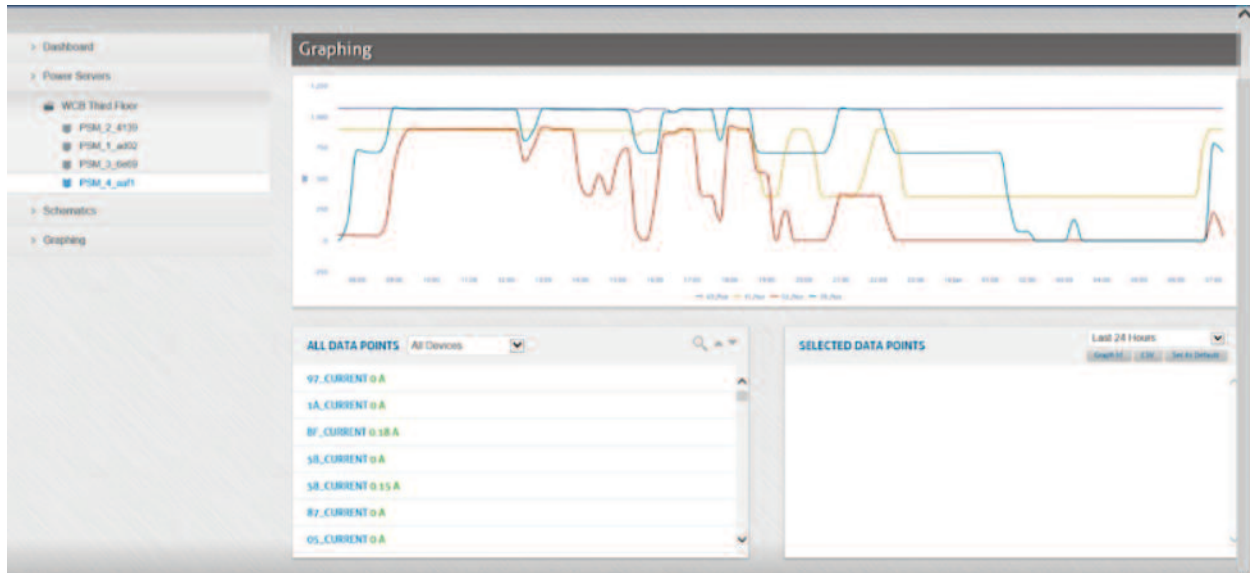

Figure 7
9.6.1 Click on Graphing, located on the left hand side of the page, Figure 7.